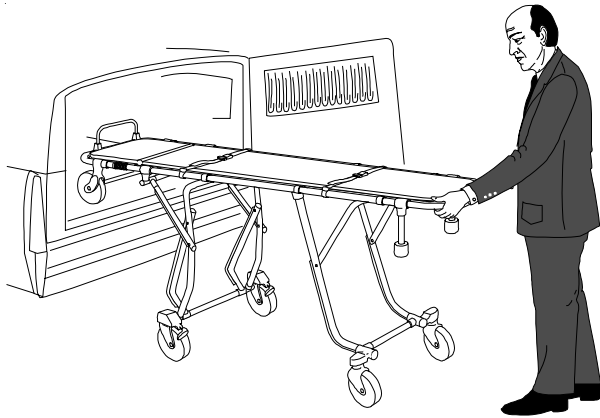

Figure 8 - Loading Cot
2. Grasp corners of main frame with an underhand grip and roll both loading wheels onto vehicle floor (Figure 8).